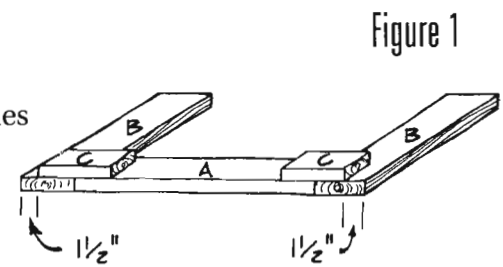
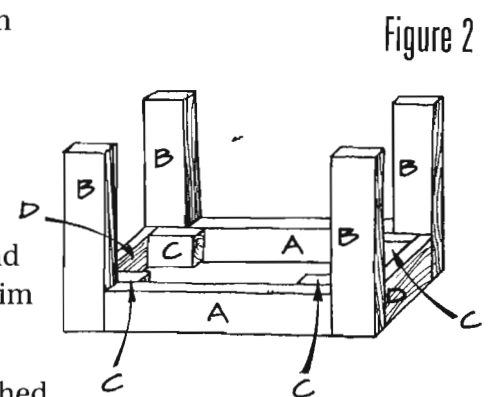

Figure 1
Figure 2
1. From 2 x 4 treated lumber, cut two long frame pieces (A), each 27-1/2 inches long, four legs (B), each 17 inches long, and four corner supports (C), each 6 inches long.
2. To make a leg assembly, place one long frame (A) between two legs (B), as shown in *Figure 1*. The cut ends of the two legs (B) should be flush with one edge of the long frame (A). Use glue and screws to attach a corner support (C) to both the long frame (A) and the leg (B) to reinforce the joint. As shown in *Figure 1*, the corner support should be 1-1/2 inches from the outer edge of the leg (B). Use two 2-1/2-inch-long screws on each end of each corner support (C).
3. Repeat step 2 to make a second leg assembly using the remaining long frame (A), two legs (B), and two corner supports (C).
4. Cut two short frames (D) from 2 x 4 treated lumber, each 19-1/2 inches long.
5. Place the two leg assemblies on a flat surface so that the corner supports face each other, as shown in *Figure 2*. Place the two short frames (D) between the leg assemblies. Glue and screw through the leg assemblies into the ends of the short frames (D) using two 2-1/2-inch-long screws on each joint.